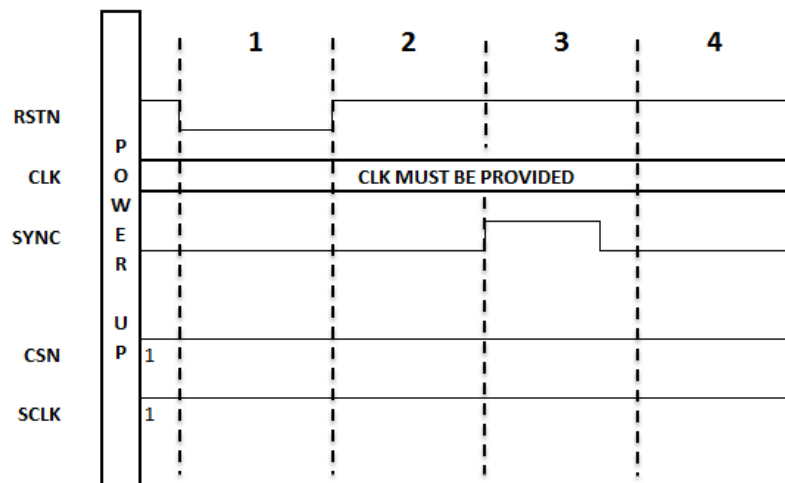

Figure 13: Start-up sequence when the SPI interface is not used
3. A pulse is applied onto the SYNC input to reset the internal clocks (SYNC signal in Figure 13) ;
The following diagrams (Figure 13 and 14) show a write and read procedure address and data sequencing. For more information on the timing between signals refer to Figure 7.